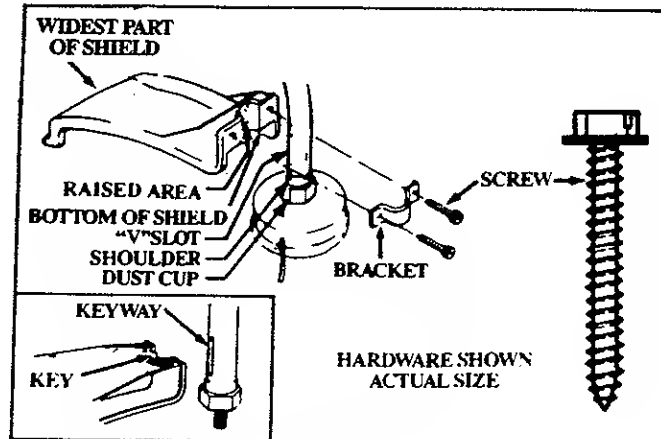

Figure 4
3. SHIELD ~ Figure 4
Failure to install the shield in the position shown in Figure 4 and 5 can result in serious injury to the operator. The length of the shield must be aligned with the length of the drive shaft housing. Direct the widest part of the shield toward the engine.
- Match the Key (Raised area) on the Shield with the Keyway ("V" slot) on the Drive Shaft Housing. Figure 4(Inset).
- Install the Bracket and Screws as shown in Figure 4.